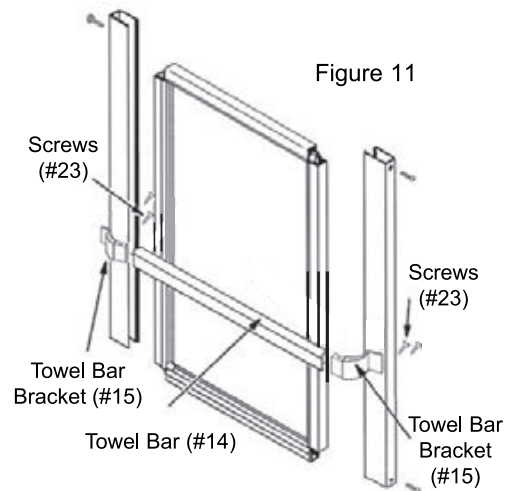

Figure 11
- B. Place one end of the towel bar onto the towel bar bracket and place onto the door as illustrated in Figure 11. Install the brackets by inserting the screws from behind the door frame as shown. Repeat for the other towel bar end.